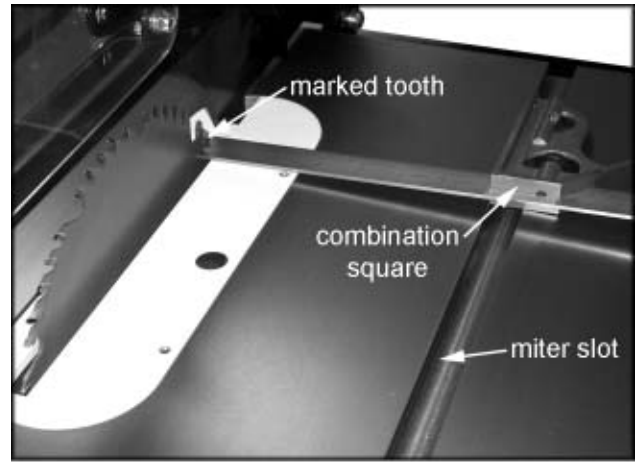

Fig. 29
Blade alignment with the miter slot is adjusted at the factory. After a period of use, or after moving the saw to another location, the blade may no longer be aligned properly. To check and align the blade, see Figure 29.
4. Choose a tooth on the far side of the blade and directly over the insert. Mark the tooth with a marker. Measure the distance from the side of the blade to the right T-slot edge using a combination square. Make sure to measure between the teeth not on the tooth, see Figure 29.